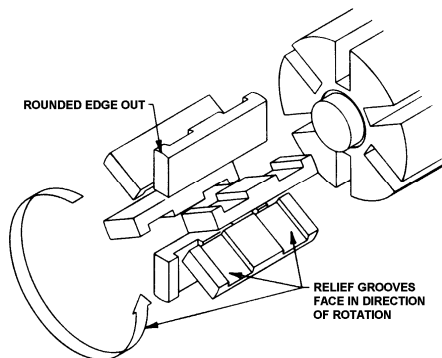

Figure 3 - Vane Installation
3. Turn the shaft by hand until a vane (14) comes to the top (12 o'clock) position of the rotor. Remove the vane.
4. Install a new vane, ensuring that the rounded edge is UP (facing outward) and that the relief grooves are facing TOWARDS the direction of rotation. See Figure 3.
9. Remove the six vanes (14) and three push rods (77) from the rotor assembly. Inspect for wear and damage, and replace as follows:
- a. The push rods **MUST** be installed before installing the rotor and shaft (13) into the pump cylinder / casing. To do so, hold the rotor and shaft vertical, with the non-driven (shorter end) down. Slide the push rods into the push rod holes of the rotor, then insert the rotor and shaft into the open end of the pump cylinder / casing.
- b. Insert new vanes into the rotor slots with the rounded edges outward, and the vane relief grooves facing **TOWARDS** the direction of rotation. Refer back to Figure 3. If necessary, move the push rods with a small screwdriver to install the vanes.
10. Install the inboard disc (71), head seal ring / O-ring (72), and sleeve (24) bearing as instructed in steps 2 through 4 above.
11. Install the inboard head and bearing assembly (20) on the pump cylinder / casing with the V-notch down, towards the bottom of the cylinder / casing. Use the head dowel pins for proper alignment.
12. For SMVP Models lubricate the eight inboard head capscrews (21) with a quality grade of anti-seize compound, and install, torquing to 15 lbs ft (20.3Nm).